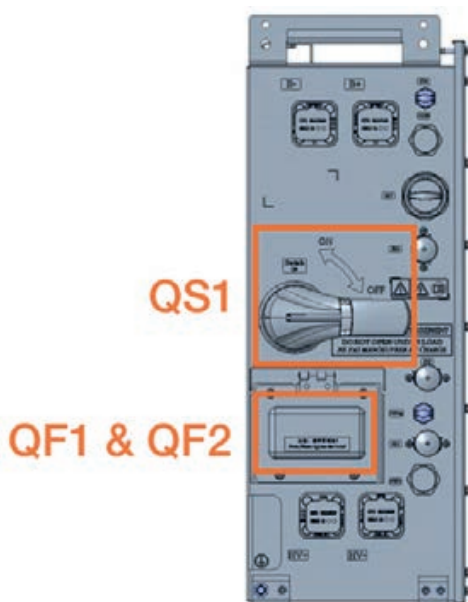

Figure 100. Location of QS disconnect and QF1, QF2 circuit breakers
- c. Turn "OFF" QS, QF1 and QF2 in all the Battery cabinets. Figure 100.